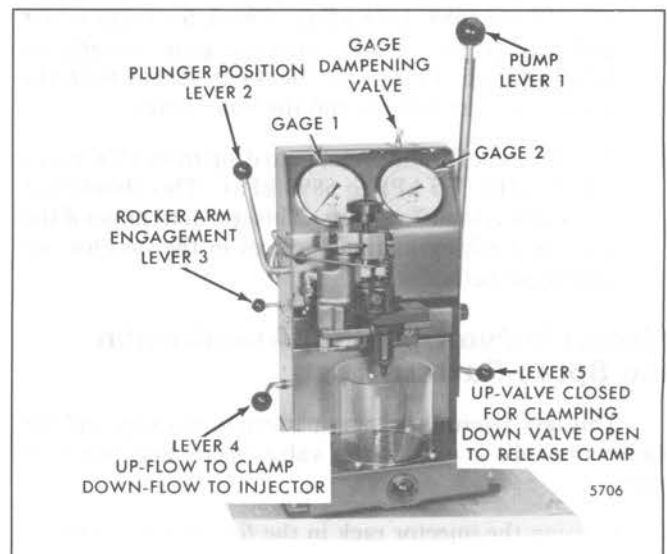

Fig. 3 – Injector in Position for Testing with J 23010-A
1. Refer to Fig. 3 and position the injector tester levers as follows: